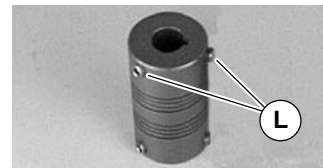

**Figure 8**
**5a.** Remove inspection plugs (K of Figure 8).
**7a.** Jog motor and rotate coupling to align set screw (L of Figure 8) with access hole (M). Tighten to 3.7 N-m. Repeat for second set screw.